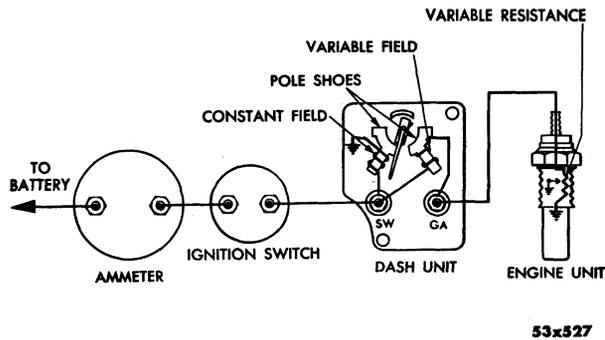

Fig. 5—Water Temperature Gauge
**8. WATER TEMPERATURE GAUGE (Fig. 5)**